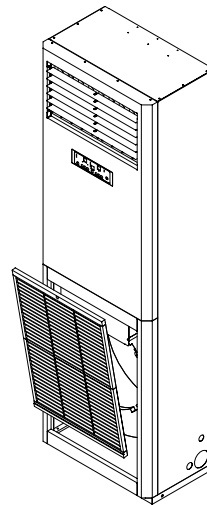

Figure 5
- 5.2 Pull the return air grille forward and lift up to remove it (Figure 5).